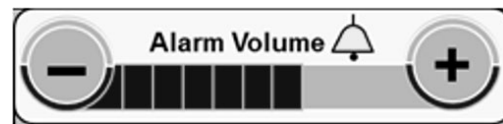

Figure 13
- Selecting the **Unlock** option allows the volume level to be adjusted across the entire available volume range using the on-screen selector shown in Figure 13. Refer to the 2008T Hemodialysis Machine Operator's Manual (P/N 490122) for the usage of this adjustment in Dialysis Mode.